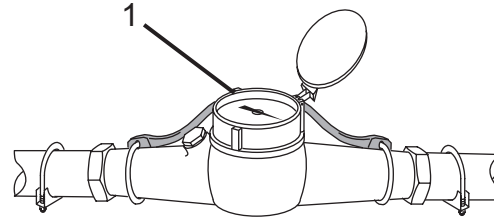

Figure 124
2. Reset the display by turning the collar (Figure 124, Item 1) counterclockwise until the pointer is aligned with "0".